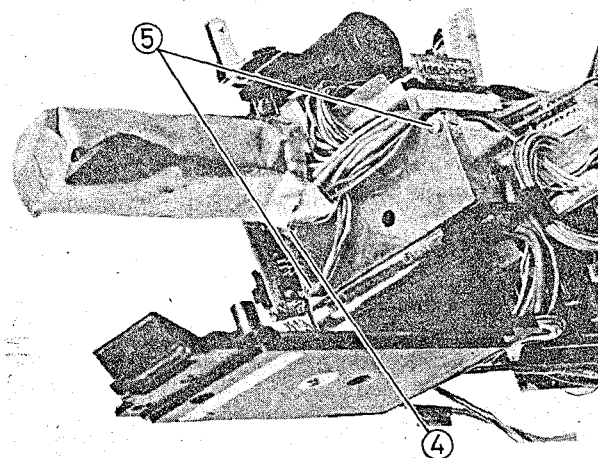
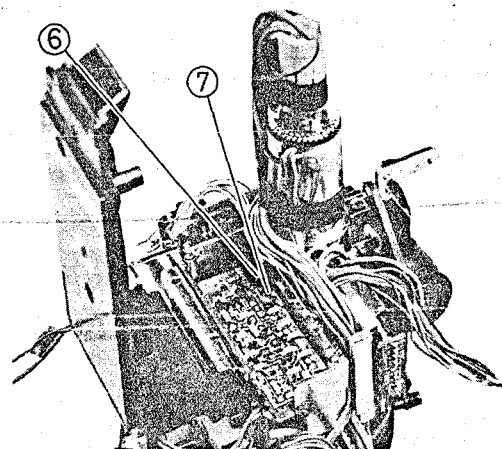

Fig. 2-37 Preamp Circuit Board Removal
Fig. 2-38 Preamp Circuit Board Removal
4. Unsolder two (2) leads. (See Fig. 2-37)
5. Remove two (2) screws holding the preamp shield cover.
6. Unsolder the target lead. (See Fig. 2-38)
7. Remove one (1) screw and one (1) spring washer holding the preamp circuit board.